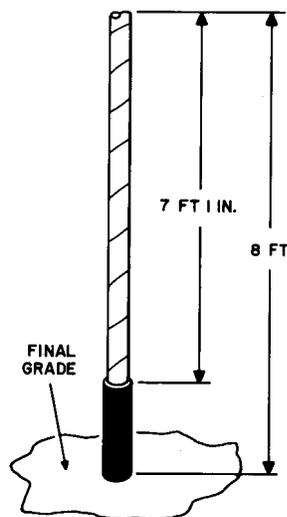

Fig. 14—Cut End Required Above Grade
6.02 The cut ends placed above grade line, by the placing forces, and the sheath opening are shown in Fig. 14.
9.06 The length of cut ends required above grade is outlined in 6.02 and Fig. 14.